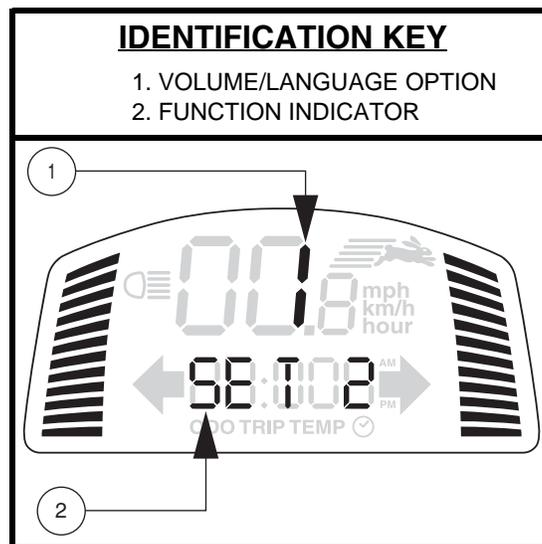

Figure 3. Volume Control Display
**NOTE:** The turn signals are timed to shut off after 15 seconds. A warning beep will sound as long as the turn signal is on. See figure 3 for volume control.
**NOTE:** The 4-way flashers will flash and a warning beep will sound as long as the hazard lights are on. See figure 3 for volume control.
The volume of the hazard lights, horn, low voltage, turn signals, and error message can be turned on or off separately. See **figure 3**.